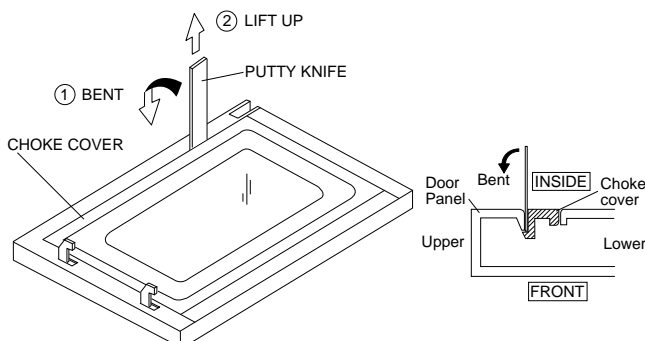

Figure C-2. Door Disassembly
2. Insert an putty knife (thickness of about 0.5mm) into the gap between the choke cover and corner portion of door panel as shown figure C-2 to free engaging parts.